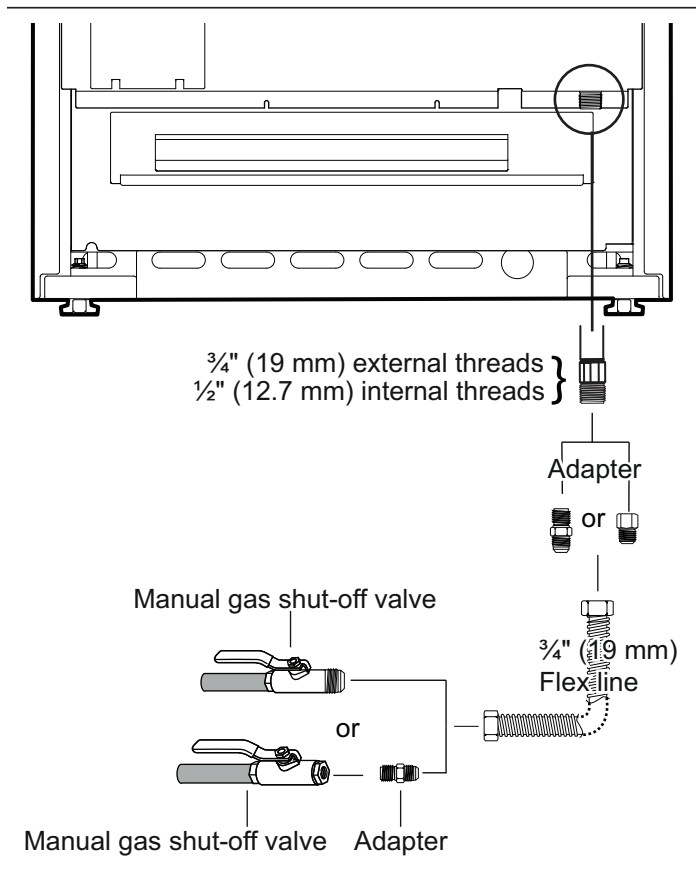

Figure 16: Gas Supply Connection
- A manual gas shut-off valve (*Figure 16*) must be installed external to the appliance, in a location accessible from the front, for the purpose of shutting off the gas supply. The supply line must not interfere with the back of the unit. Make sure the gas supply is turned off at the manual shut-off valve before connecting the appliance.
2. Locate the gas supply line connection at the back of the range (*Figure 16*).
3. Use a $\frac{3}{4}$ " (19 mm) flex line to connect between the gas supply and the appliance gas inlet. The appliance gas inlet connection is $\frac{1}{2}$ " (13 mm) NPT (*Figure 16*).